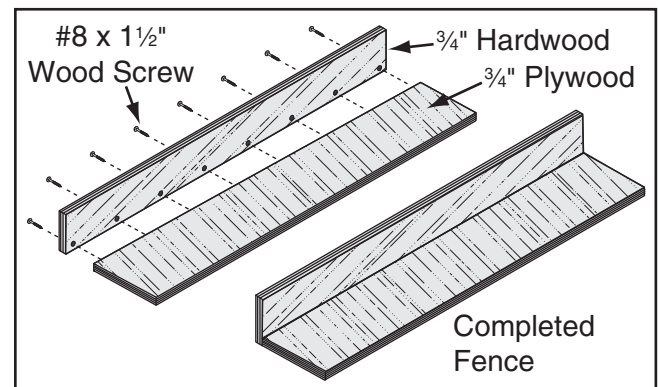

Figure 88. Location of pilot holes.
2. Pre-drill and countersink eight pilot holes $\frac{3}{8}$ " from bottom of 3" wide board, then secure boards together with eight #8 x $1\frac{1}{2}$ " wood screws, as shown in **Figure 88**.